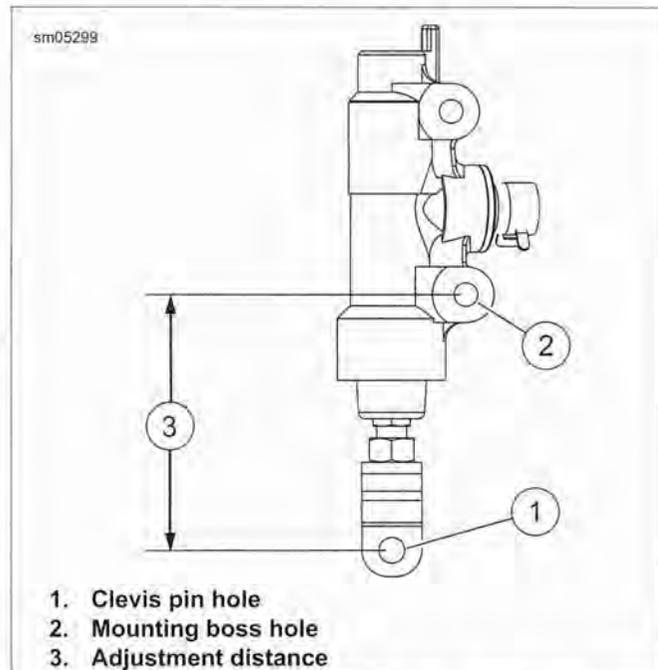

Figure 2-84. Adjusting Push Rod Length
9. Insert push rod into master cylinder body. Press down on push rod to compress piston spring (10). Slide push rod retainer down into master cylinder bore and hold in place.
10. Secure push rod assembly with **new** retaining ring (7). Verify that retaining ring is fully seated in groove. Remove nut (4) from push rod.
11. Apply approximately 0.1 g of G40M BRAKE GREASE around groove in boot collar nut. Carefully slide boot (6) down onto push rod and into end of master cylinder bore. Press lip of boot down around groove in boot collar nut.
12. Thread nut (4) onto push rod (5), several turns past flats.
13. Thread yoke (3) onto push rod, at least 2-3 turns past flats.
14. See Figure 2-84. Measure distance (3) from centerline of clevis pin hole (1) in yoke to centerline of master cylinder mounting boss hole (2) closest to yoke. This distance must